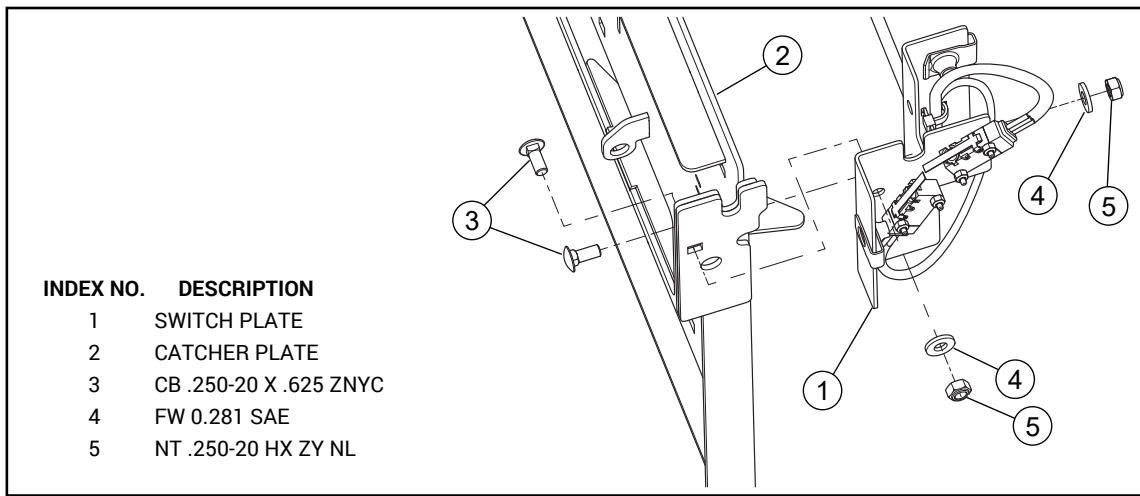

FIG. 4
4. Attach the switch plate to the catcher plate with the existing hardware. Fig. 4